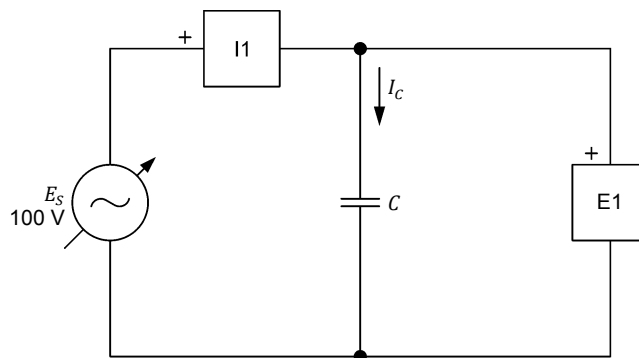

Figure 2-6. AC circuit containing a capacitor.
7. Set up the circuit shown in Figure 2-6.
The value of the capacitance C to be used in the circuit of Figure 2-6 depends on the frequency of the ac power source, as indicated in Table 2-3.